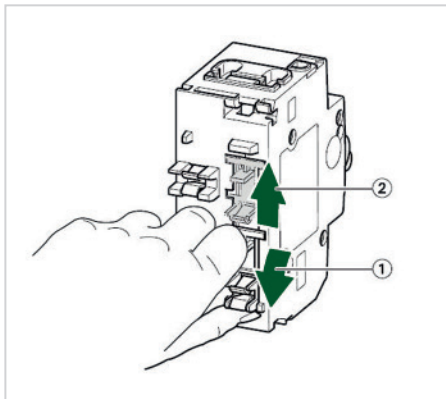

Fig.18: Change position of plug contacts
– First: Lift contact gate (Fig.18)
– Second: Bring plug contacts to required position (L1, L2 or L3) (Fig.18)